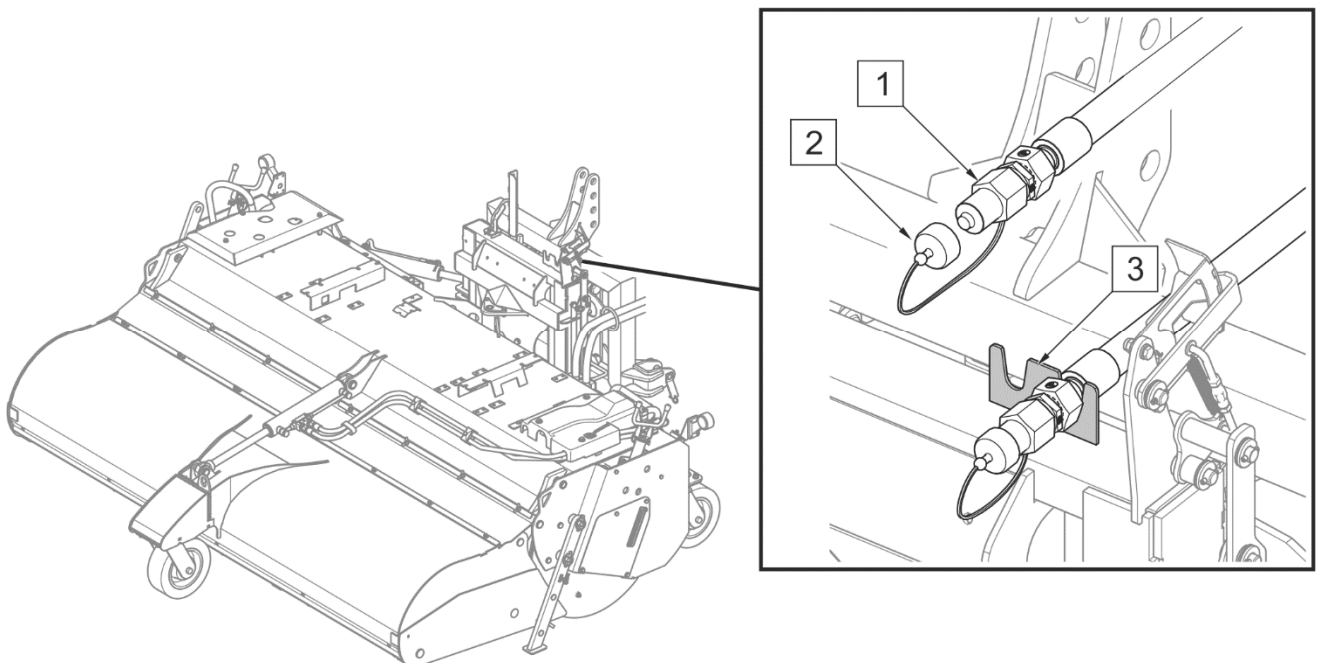

FIGURE 4.22 Protection of plugs after disconnection from the carrying vehicle
- Disconnect hydraulic conduit plugs and electric lead plugs from the carrying vehicle and secure with stoppers. Place hydraulic conduit plugs in the bracket on the frame (FIGURE 4.22).